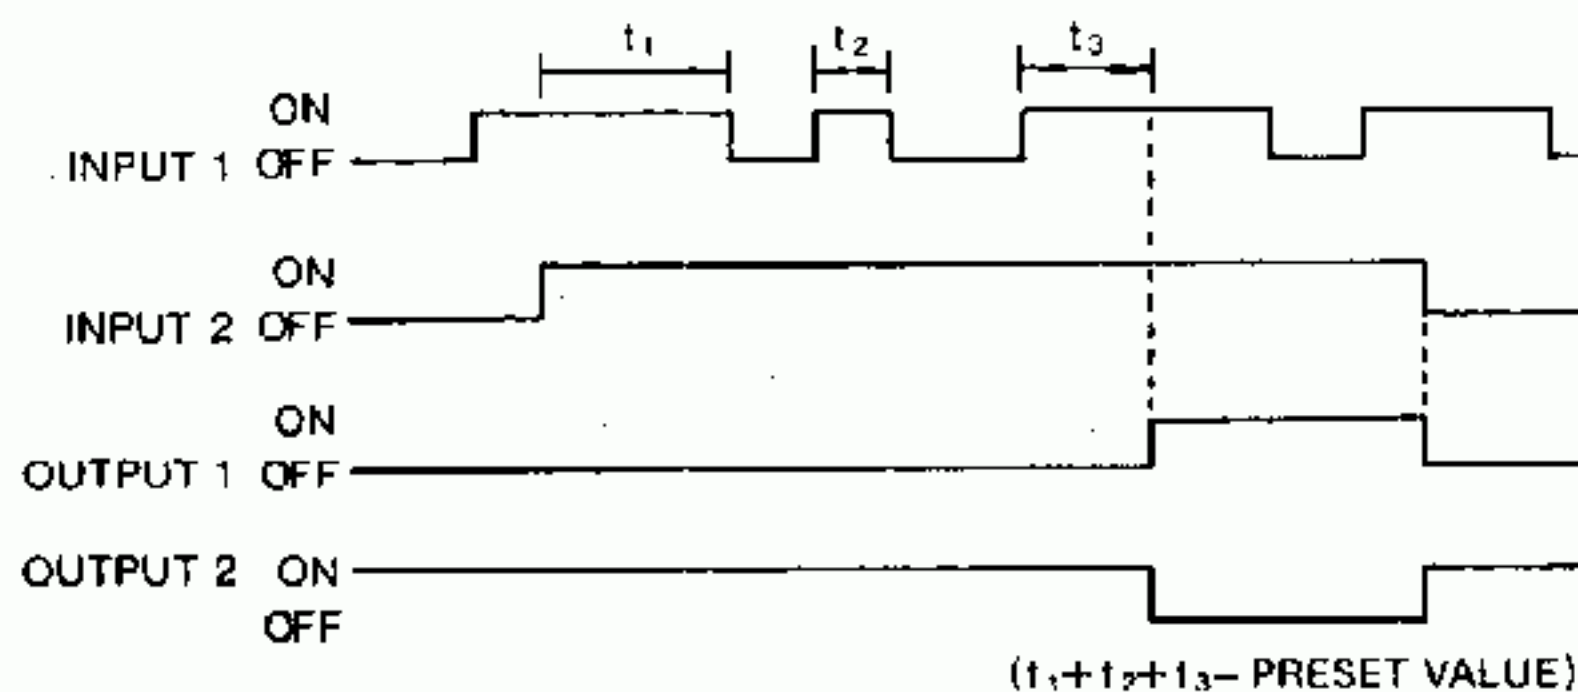

Fig. 4.4 Timer Operation
Fig. 4.4 and Table 4.5 show the timing chart and operation of the timer.
- When the current value is equal to the preset value (10), the timer stops and output 1 (coil 00020) is turned on and output 2 (coil 00021) off.
- If input 2 is ON and input 1 is cycled ON-OFF-ON-OFF, the time intervals while input 1 is ON are added. See Fig.4.4.